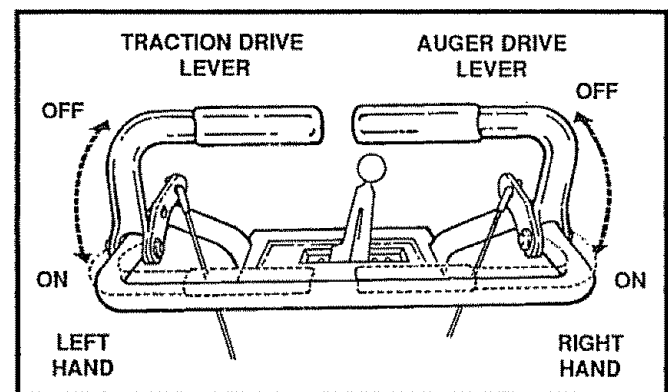

FIG. 12
- To stop throwing snow, release the auger drive lever (See Fig. 12).
- Engage the traction drive lever (See Fig 12, left hand). As the snow thrower starts to move, maintain a firm hold on the handles, and guide the snow thrower along the clearing path. Do not attempt to push the snow thrower.
- Push down the auger drive lever (See Fig. 12, right hand).